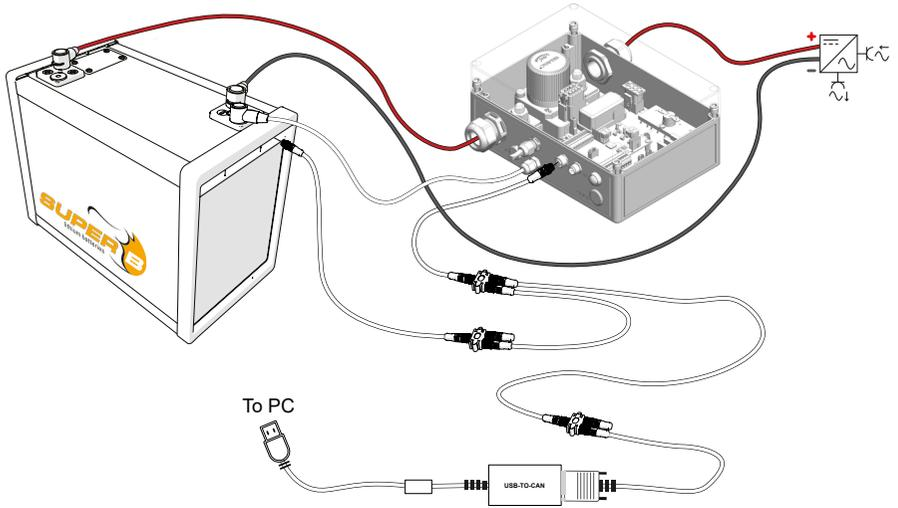

Figure 9. Setup for configuration using the Be in Charge Monitoring Kit
1. Connect one Li-ion battery to the BIB via the CAN connection (see figure 9).